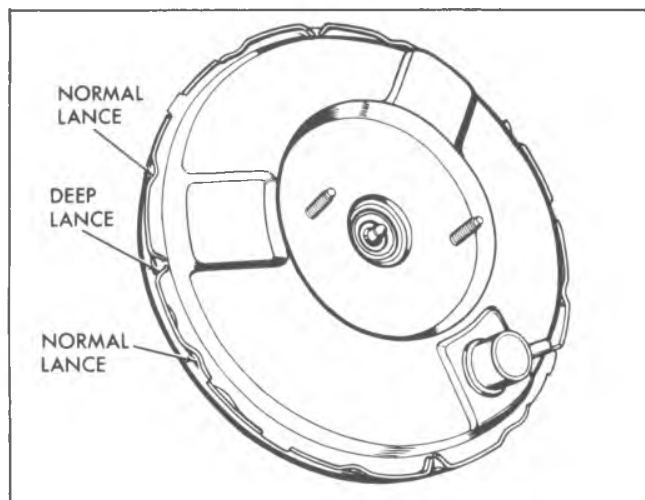

Fig. 5-3D-Lances in Rear Housing
7. The edge of the rear housing contains twelve lances. Four of these lances (one in each quadrant) are deeper than the other lances (fig. 5-3D). The metal that forms the four deep lances must be partially straightened so that the lances will clear the cutouts in the front housing. If the metal tabs that form the deep lances crack or break during straightening, the housing must be replaced.